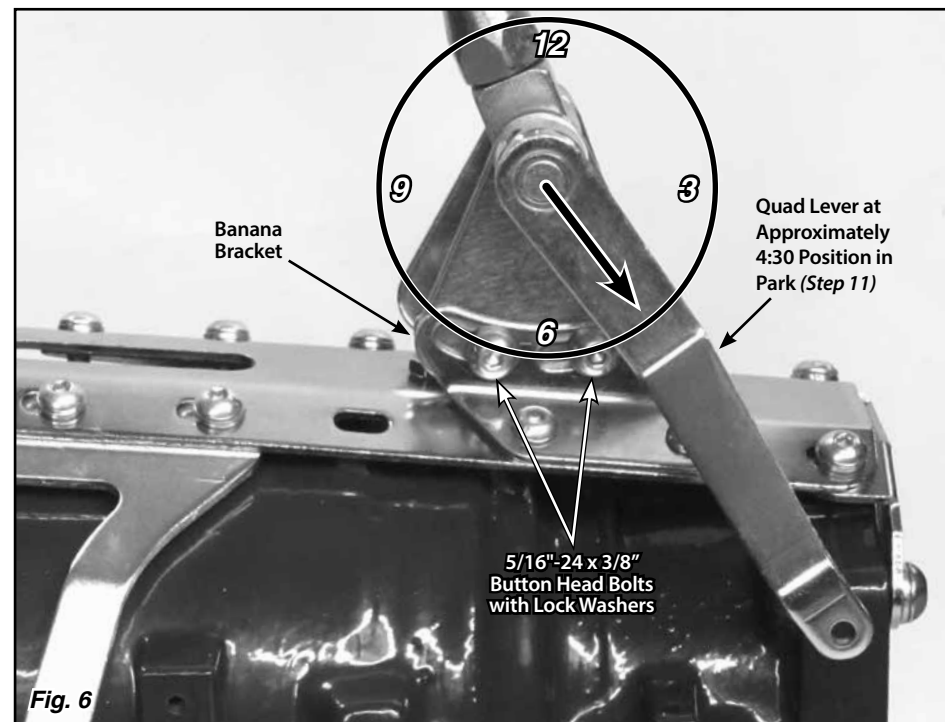

Fig. 6
Step 10: Make sure the two 5/16"-24 x 3/8" button head bolts with lock washers that attach the left side banana bracket to the shifter assembly (in the curved, slotted holes) are tight. Before tightening the shifter assembly down to the main plate, move the shifter lever through all the gear positions. Make sure that the shifter lever and knob will not come in contact with the dash or the seat. The shifter assembly can be tilted forward or backward if needed by loosening the 5/16"-24 x 3/8" button head bolts in the curved, slotted holes in the left side banana bracket. **Fig. 6**
Step 11: Put the shifter lever into the Park position and check the position of the quad lever. It will need to be pointing to about the 4:30 position. If it is not, loosen the set screw in the top of the quad lever with a 1/8" Allen wrench and slide the quad lever off of the shaft. Reposition it on the shaft at approximately the 4:30 position, and retighten the set screw. **Fig. 6**
Double check to make sure that the bolts connecting the **left** side banana bracket to the shifter assembly are tight. **Fig. 6**